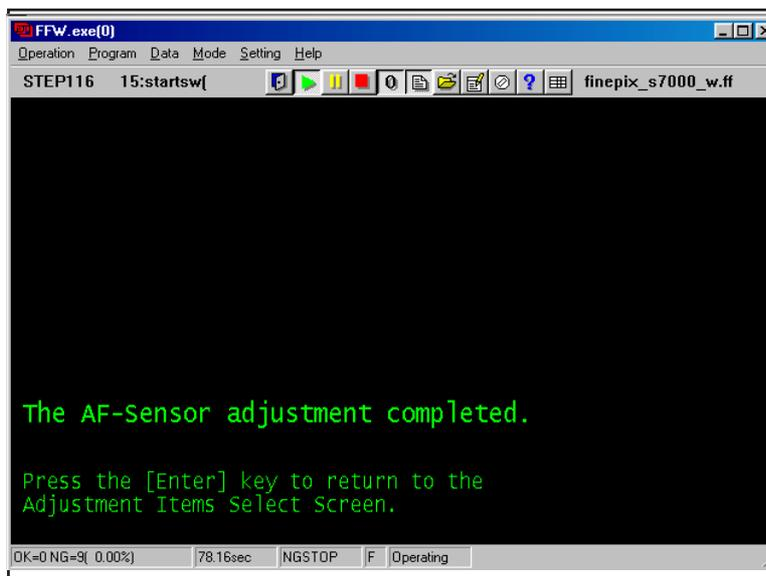

Fig.12
--> The [AF-Assist light adjustment complete Screen (Fig.12)] appears.
Press the Enter key while in the [AF-Sensor adjustment Complete Screen (Fig.12)].